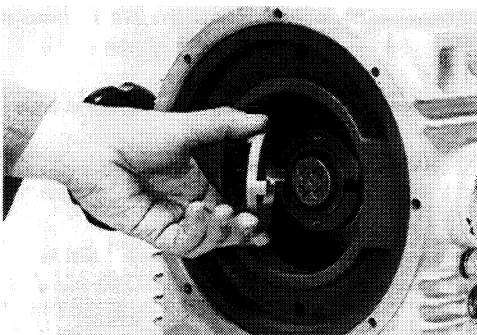

Fig. 4
Remove the Oldham coupling (33) and the O-ring (65). Normally the O-ring can be reused, so save it (Fig. 4).